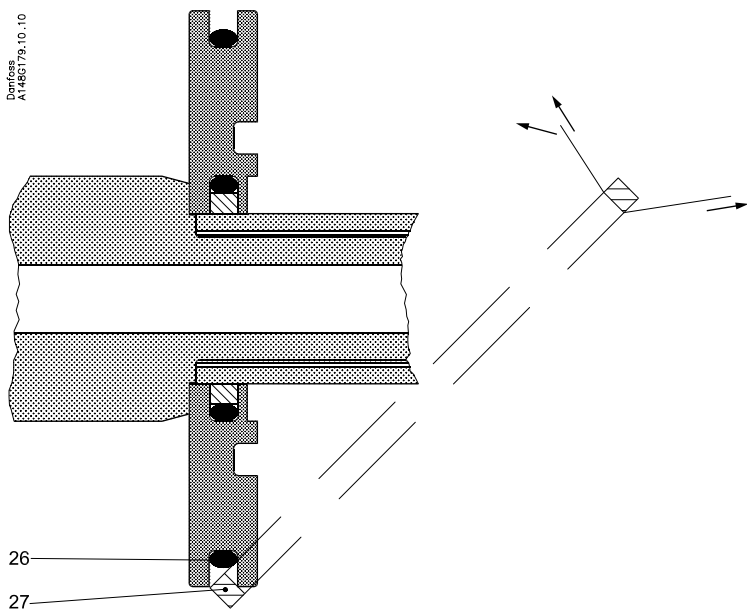

Fig. 6
**F.** Mount the O-ring (pos. 26) and then the sealing ring (pos. 27) as shown in fig 6. In order not to damage the ring use 2 plastic strips to pull the ring to the right place.